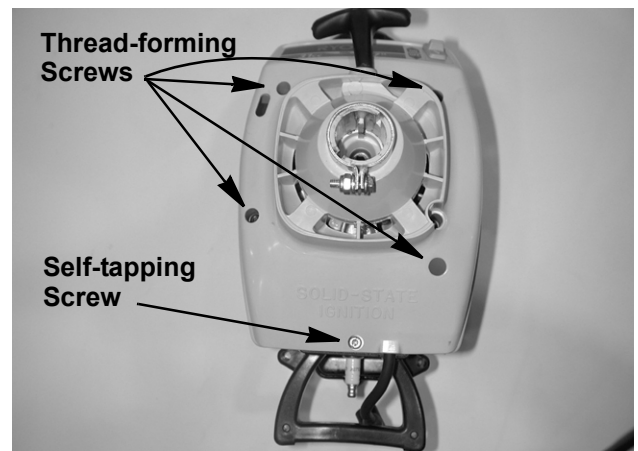

FIGURE 4
8. Remove the four thread forming and one self-tapping screws that hold the starter housing to the engine using a T-20 Torx driver. See Figure 4.